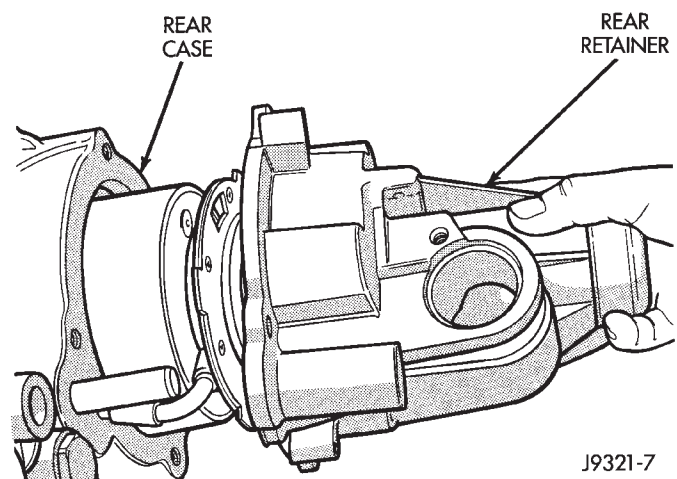

Fig. 93 Rear Retainer Installation
- (6) Install rear bearing locating ring in rear retainer, if ring was removed during overhaul.
(7) Apply 3 mm (1/8 in.) wide bead of Mopar silicone adhesive sealer to mating surface of rear retainer. Allow sealer to set-up slightly before proceeding.
(8) Slide rear retainer onto mainshaft (Fig. 93).